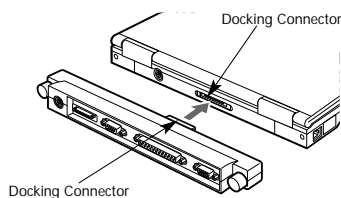

Figure 5-3 Connecting the Port Replicator
2. Align the Docking Connector on the rear panel of your notebook with the Docking Connector on the front panel of the Port Replicator. (Figure 5-3.)
3. Push the Port Replicator and the notebook together until the docking connectors are fully engaged. (Figure 5-3.)